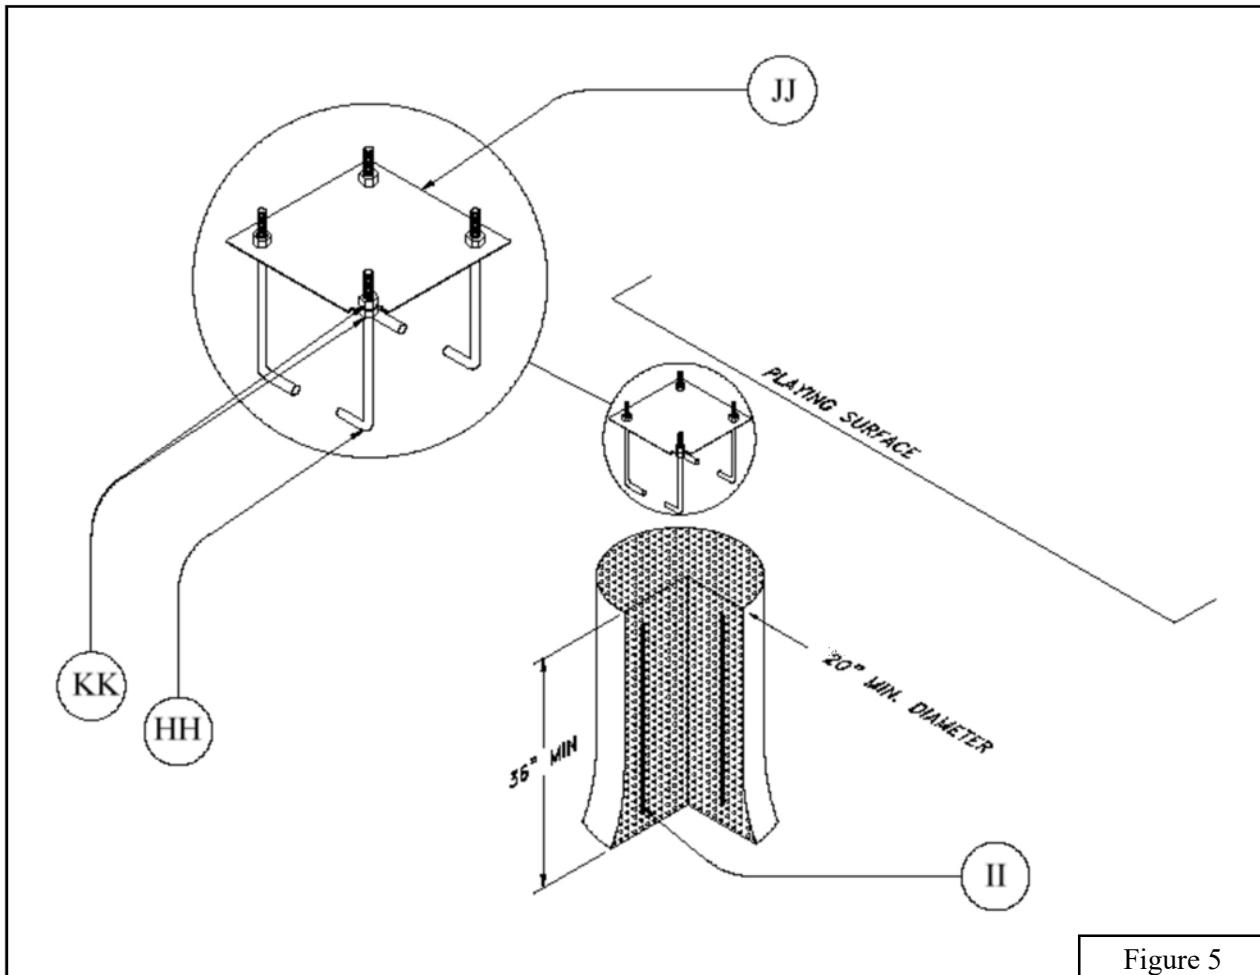

Figure 5
- 7b. Dig a hole a minimum of 20" in diameter and 36" deep. Bell out the bottom 12" of the hole to a diameter that is at least 4" larger than the diameter of the hole at the top. Digging the hole too big is better than digging it too small. See Figure 5.
- 8b. Prepare the "J" Bolt assembly by first threading a *5/8" Hex Nut* (KK) onto each *"J" Bolt* (HH) so that approximately 2-1/2" of thread is protruding above the nut. Place the threaded end of each *"J" Bolt* (HH) through the four holes in the *Template* (JJ). Thread a second *5/8" Hex Nut* (KK) onto each *"J" Bolt* (HH) on the top side of the *Template* (JJ). Tighten the nuts on both sides of the *Template* (JJ), making sure that the same length of *"J" Bolt* (HH) (2" minimum) is protruding above the *Template* (JJ) in all four corners and that the *"J" Bolt* (HH) "legs" are pointing toward the center of the *Template* (JJ). See Figure 5.
- 10b. A 20" diameter by 36" deep hole, with additional soil removed from the bottom 1/3, will require approximately 7 cubic feet of *Premix Concrete* (N). Allow for more if the hole is deeper or wider. Make sure you have enough concrete on-site before pouring, because allowing a portion to dry before the hole is completely filled will affect the strength of the footing.
- ◆ Damaging threads on J-Bolts making it impossible to install 5/8" Hex Nuts (KK).
- 13b. Drop the *Rebar* (II) into the wet concrete to help support the concrete footing.
- 14b. Insert the "J" bolt assembly into the wet concrete. Be sure the *Template* (JJ) is parallel to the desired position of the backboard and the edge of the playing surface. Use the tape measure to double check. Vibrate the assembly as you insert it so that concrete fills in around the "J" Bolts (HH). Be sure the *Template* (JJ) is pressed firmly against the surface of the wet concrete. The top of the concrete footing should be flush with the playing surface. See Figure 5.
- 15b. Clean excess concrete from edge of hole and level the concrete from the edge of the *Template* (JJ) to the edge of the hole. **Allow concrete to cure for 4 days.**